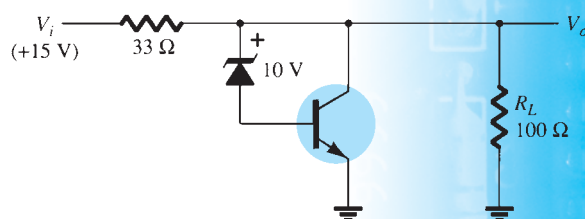

FIG. 15.45
22. Determine the regulated voltage and circuit currents for the shunt regulator of Fig. 15.45.